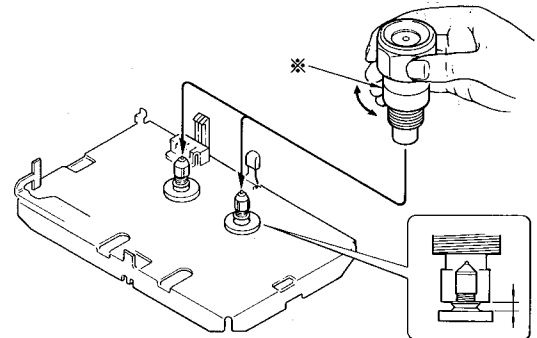

Fig. 8
3. After slipping the gauge onto the reel spindle, gradually move your finger away from the rotating part at the bottom (the part marked * in Fig. 8).